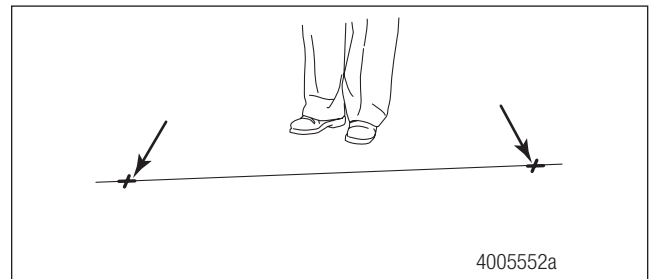

Figure 14.30
4. Draw a straight line connecting the points on the ground. Figure 14.30.